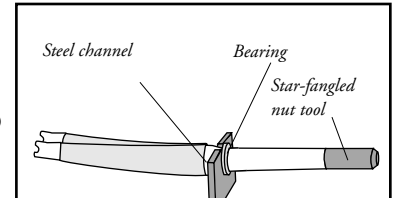

Fig. 29
3. Carefully position the steerer in the steel channel so that the steerer rests on the channel with the bearing on the side nearest the star-fangled tool (Fig. 29). Hold the fork so it cannot fall.